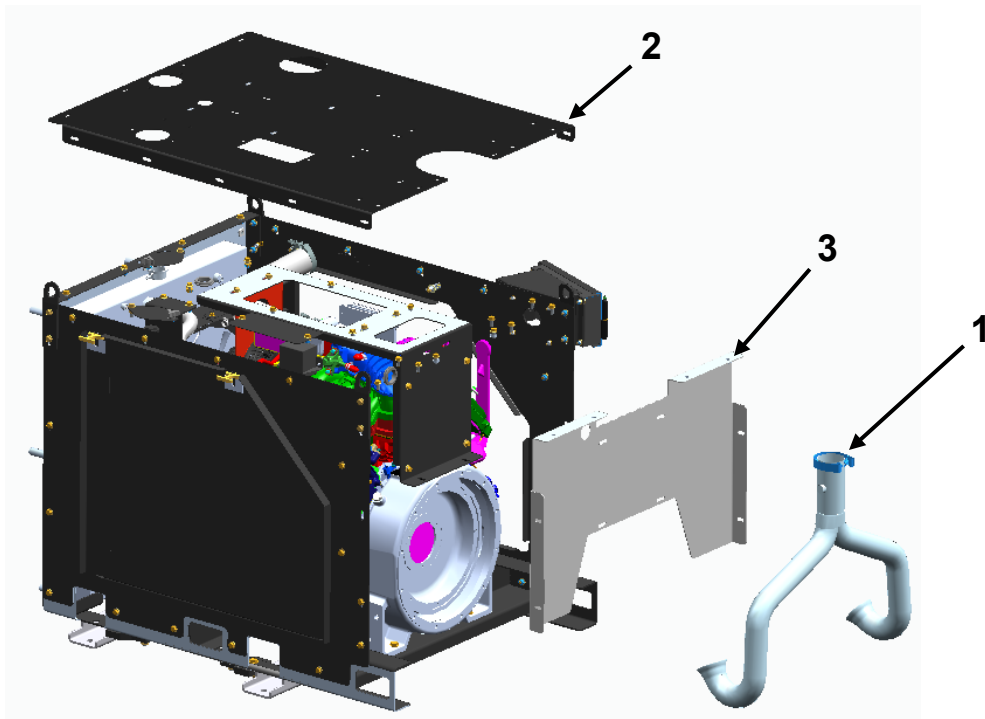

Figure 2
- 2) See Figure 2. Remove Exhaust Pipe (1), Engine Enclosure Top (2) and Chimney Weldment (3) in the order as numbered and set aside.